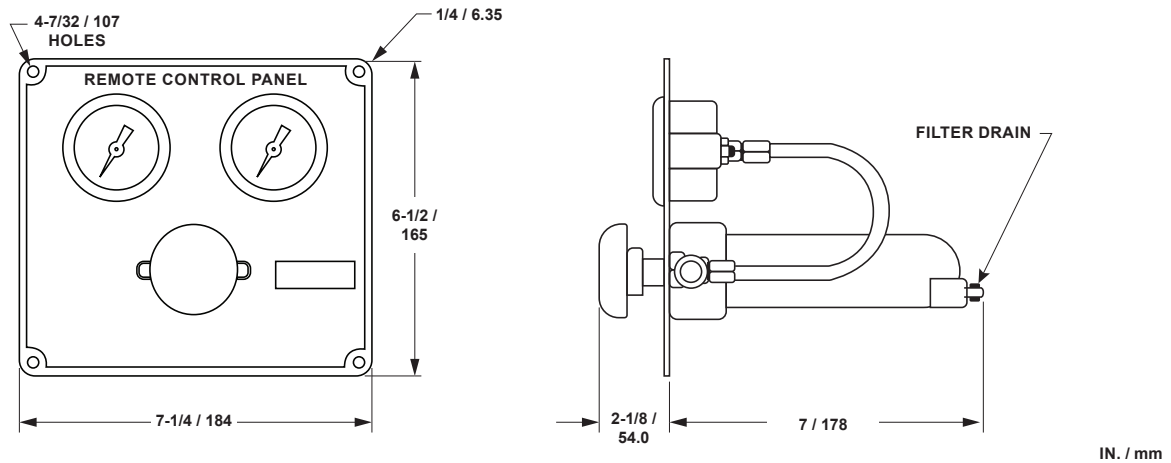

Figure 2. Type A Panel (cut out 5-1/4 in. high by 6 in. wide)
Air adjustment panels are available in two models as illustrated in Figures 2 and 3.
5. Connect tubing bends as illustrated in Figure 2.